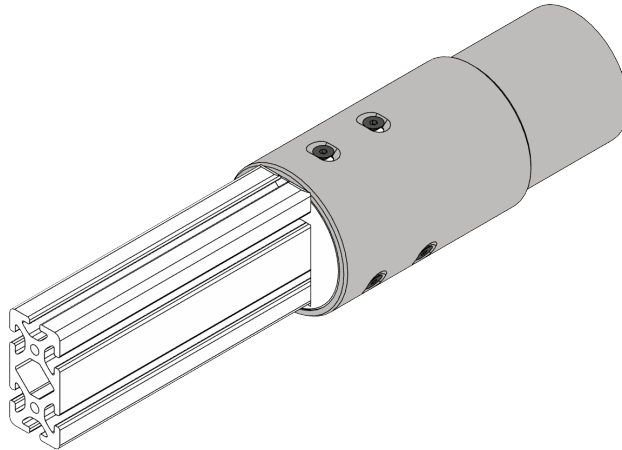

Figure 2.6: The coupling implement bolted to the slotted rail extension. The slotted rail extension is welded to the rail (not in picture).
2. ☐ Insert the coupling implement into the rail and secure it in place with 6 M6x12 countersunk head screws as in fig. 2.6. The screws may be left loose to allow the coupling implement to rotate as much as permitted by the slotted rail extension.